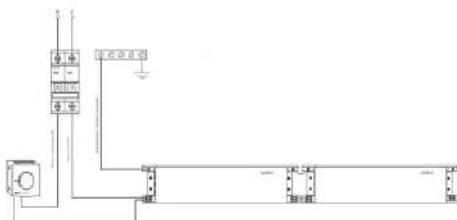

Fig. 4. Baseboard connection scheme
7.4.9 The thermoregulator must be connected by a qualified electrician, according to the scheme shown in *Fig. 4*. After connecting the thermoregulator, put a cover on it and calibrate the temperature by thermal relay activation.